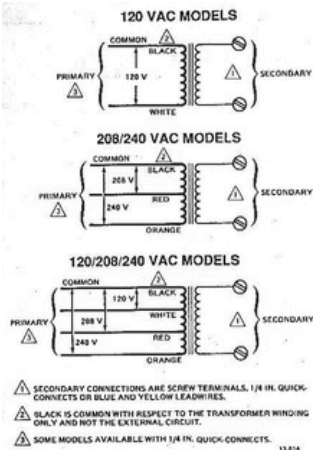

Fig. 1. Schematic for single and multitap transformers.
- 1. Make primary connections to line voltage power supply. On multitap model, make sure you are using correct leads or terminals for available power supply. See Fig.1.